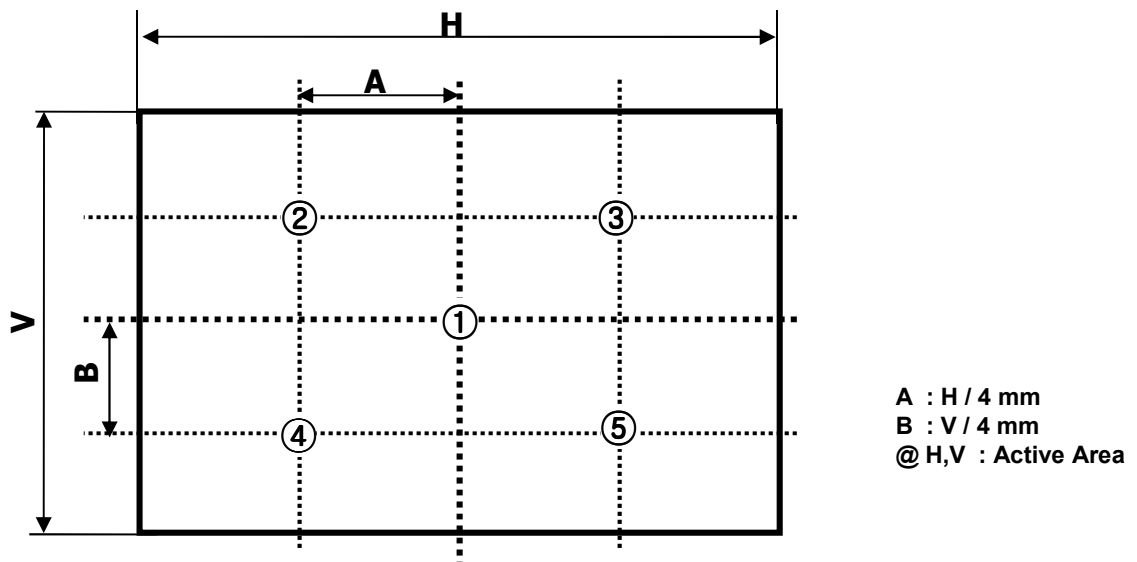

FIG. 2 5 Points for Luminance Measure
2. Surface luminance is determined after the unit has been 'ON' and 1 Hour after lighting the backlight in a dark environment at $25 \pm 2^\circ\text{C}$. Surface luminance is the luminance value at center 1-point across the LCD surface 50cm from the surface with all pixels displaying white. For more information see the FIG. 2.
Where L_{on1} to L_{on5} are the luminance with all pixels displaying white at 5 locations . For more information, see the FIG. 2.